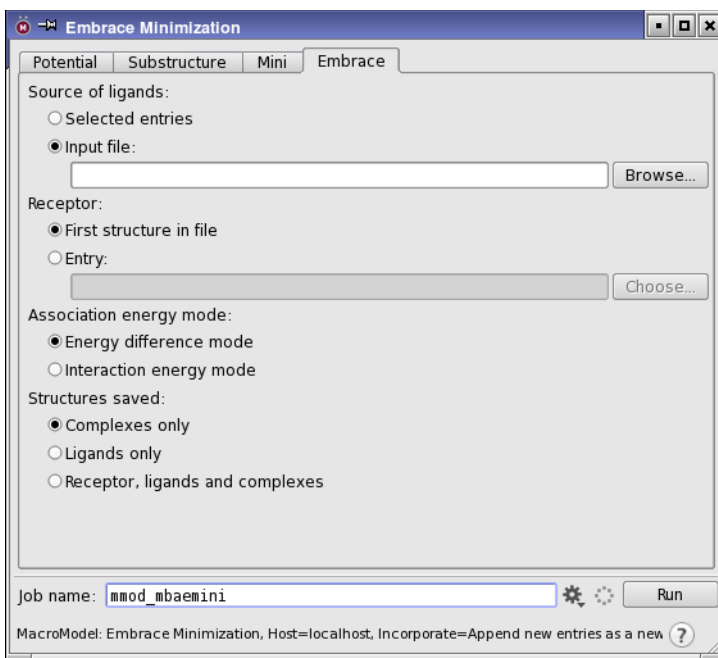

Figure 5.1. The Embrace Minimization panel showing the Embrace tab.
6. Click the Embrace tab (see Figure 5.1).